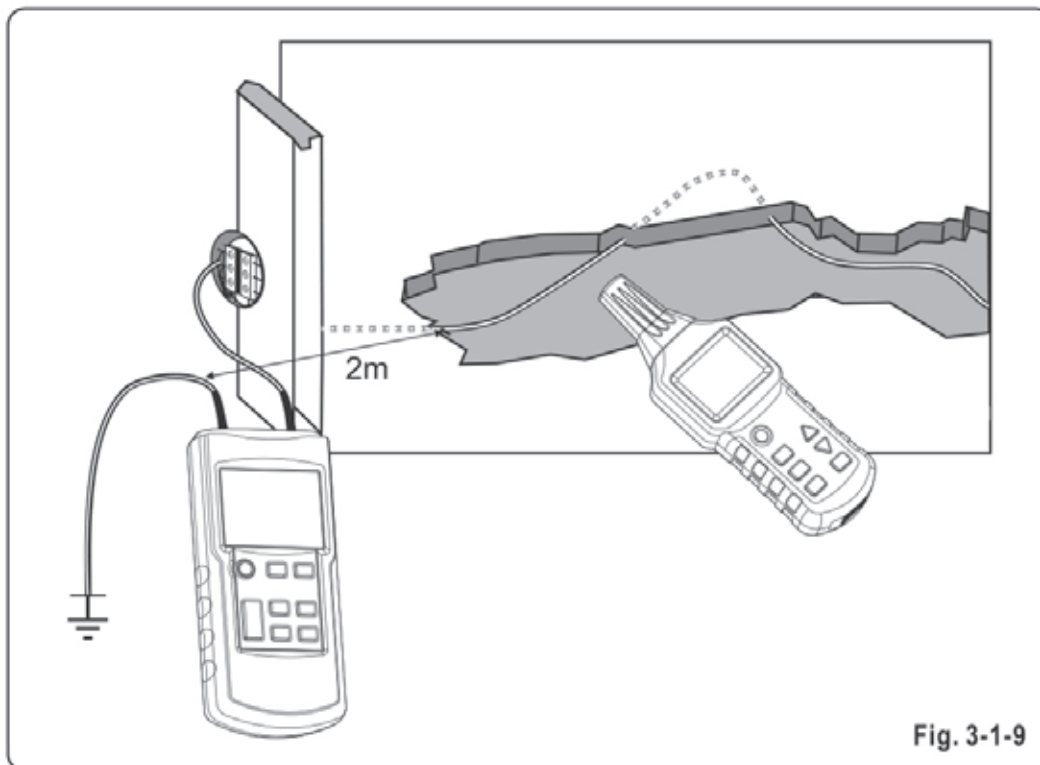

Fig. 3-1-9
- Connect the transmitter in a way shown in Fig.3-1-9;